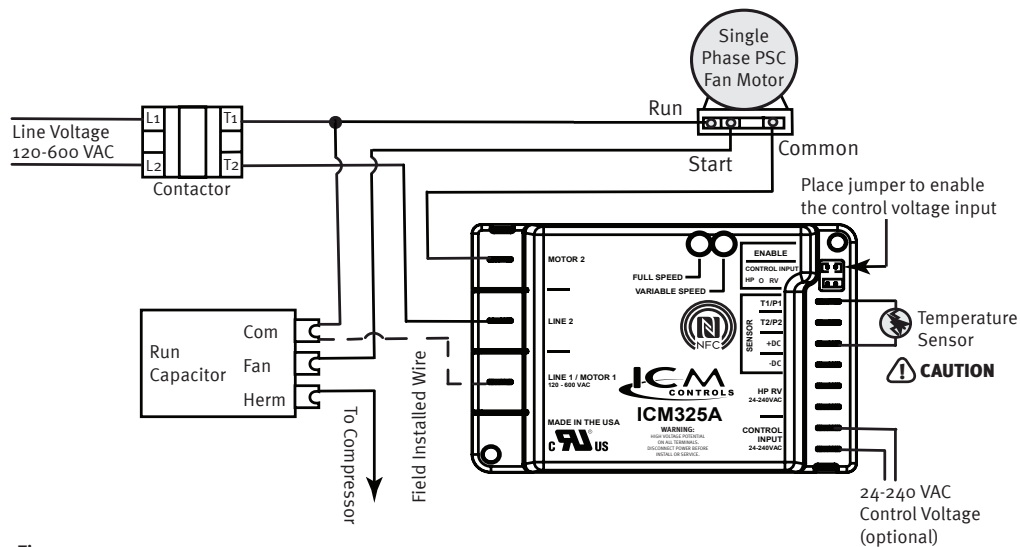

Figure 1.
2. Connect the two wires from the sensor to the terminal block where it is marked T1/P1 and +DC (see figure 1 wiring diagram). If additional probes are necessary for multiple refrigerant circuits, they may be attached to terminals marked T2/P2 and +DC.